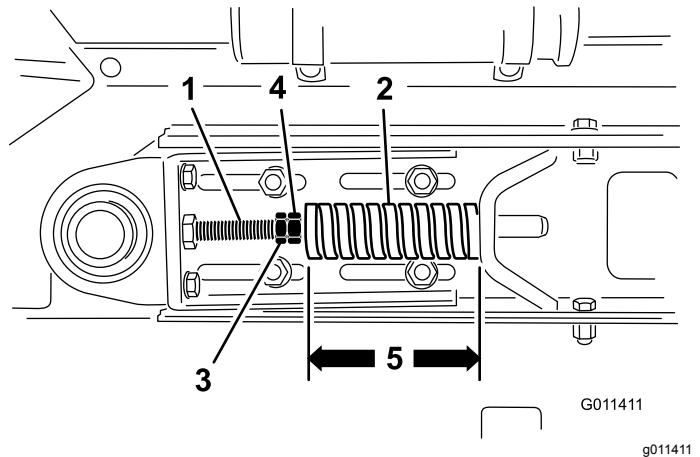

Figure 26
1. Loosen the jam nuts and adjust tension rod (Figure 26) nuts to attain the desired tension.